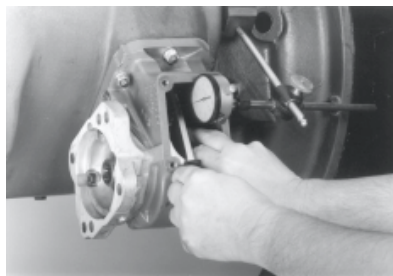

Fig. 9
2. Mount the dial indicator so that it registers movement of the input gear (driven gear) of the P.T.O. (Fig. 9).